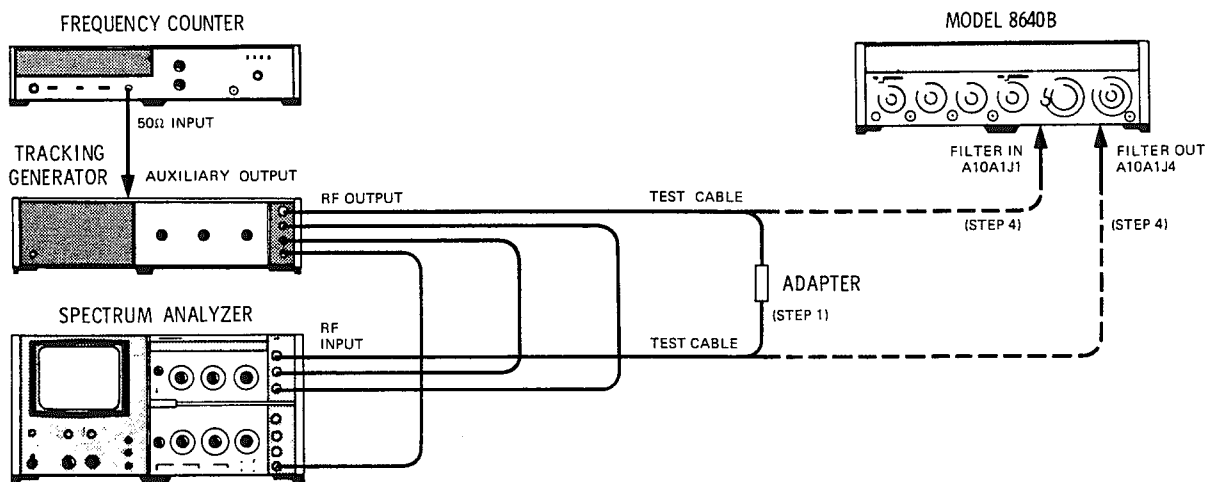

Figure 5-5. RF Filter Adjustment Test Setup
1. Connect equipment as shown in Figure 5-5 after setting Signal Generator's controls as follows: